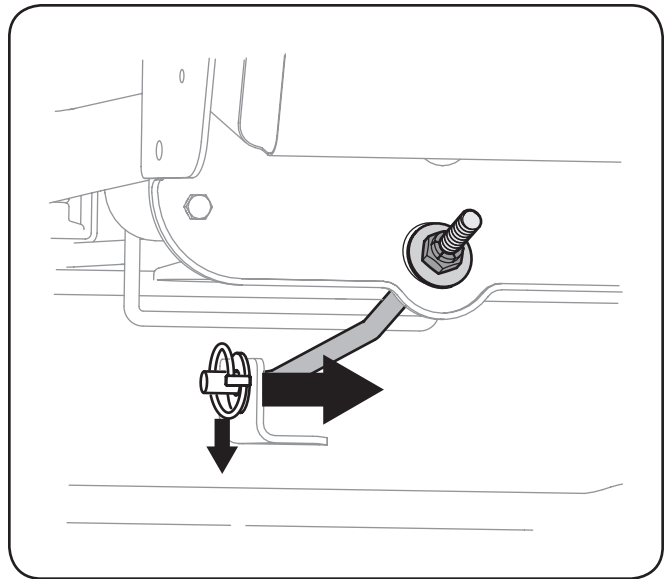

Figure 7-5
- Remove the cotter pin from the end of the stabilizer rod and slide the stabilizer out of the hanger bracket on the deck. See Figure 7-5.
- a. With the deck beneath the mower frame, attach the stabilizer rod. See Figure 7-5.